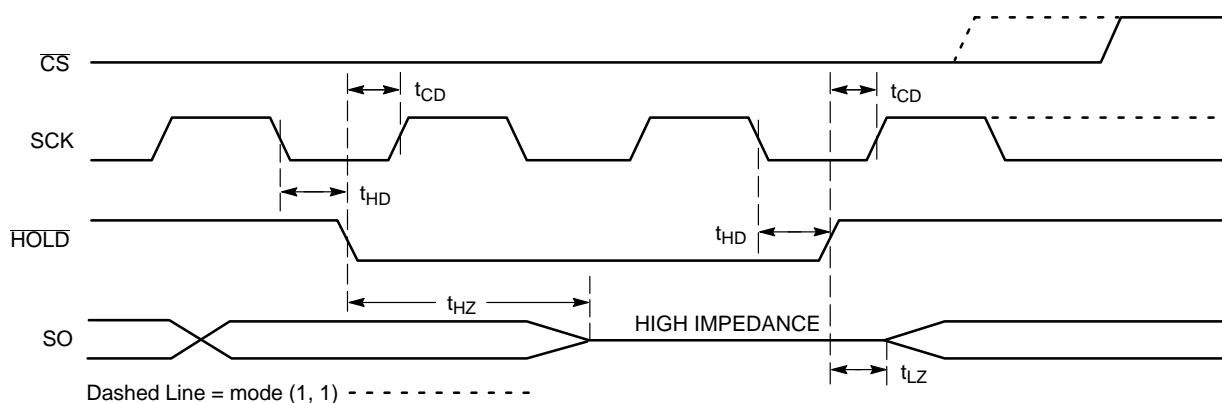

Figure 10. $\overline{\text{HOLD}}$ Timing
The $\overline{\text{HOLD}}$ input can be used to pause communication between host and NV25xxx. To pause, $\overline{\text{HOLD}}$ must be taken low while SCK is low (Figure 10). During the hold condition the device must remain selected ($\overline{\text{CS}}$ low). During the pause, the data output pin (SO) is tri-stated (high impedance) and SI transitions are ignored. To resume communication, $\overline{\text{HOLD}}$ must be taken high while SCK is low.